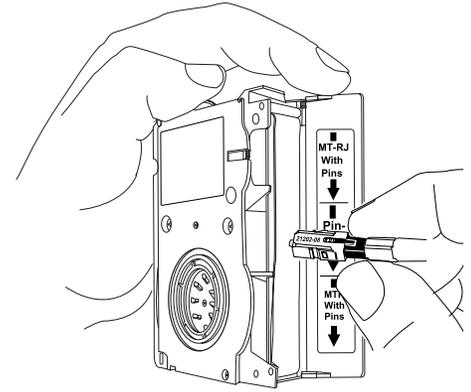

Figure 6-1
**6.2-1** This procedure describes how to use a Corning Cable Systems Universal Connector Cleaning Cassette (p/n 2104359-01) to clean UniCam fiber optic connectors (Figure 6-1).